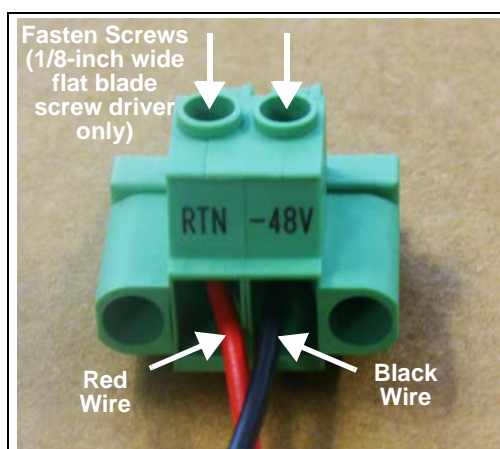

Figure 2.25 - G10 DC Pluggable Screw Terminals
4. Insert the crimped ends of the power cables into the rectangular openings (3.5 mm x 3.5 mm wide) of the pluggable screw terminals. Insert the red wire into the RTN opening and insert the black wire into the -48V opening (Figure 2.25).
5. Using only a 1/8-inch wide (3.5 mm wide) flat blade screw driver, fasten the screws above the wires to secure the wires to the pluggable screw terminals (**Figure 2.25**). Tighten the wire retention screws to 0.7Nm to 0.8Nm. Gently tug the wires to ensure they are secure.